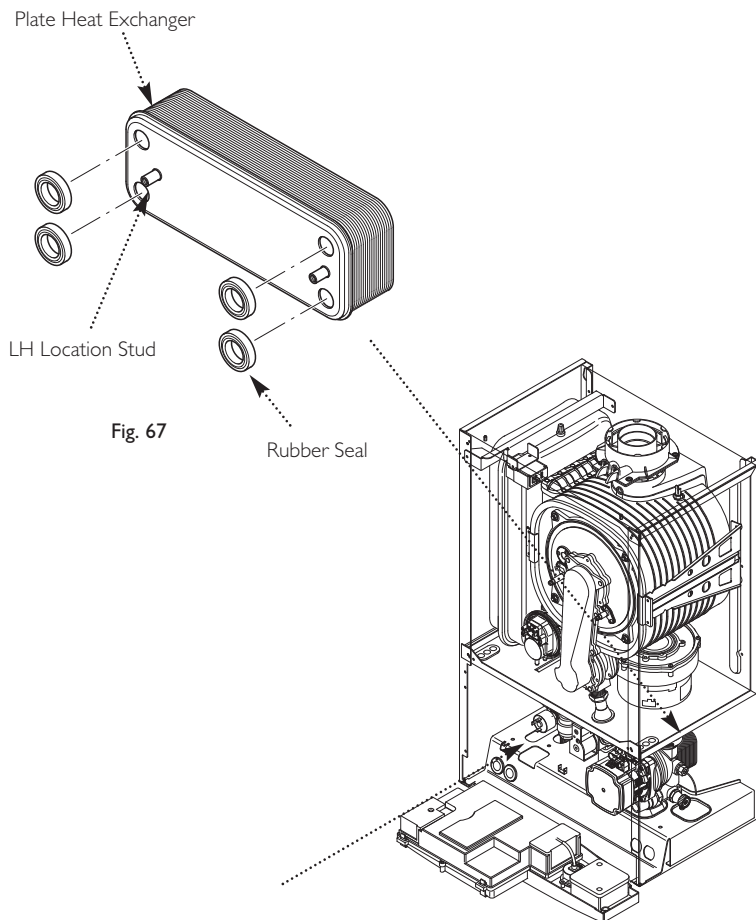

Fig. 67
13.20 Plate Heat Exchanger (Fig. 67)